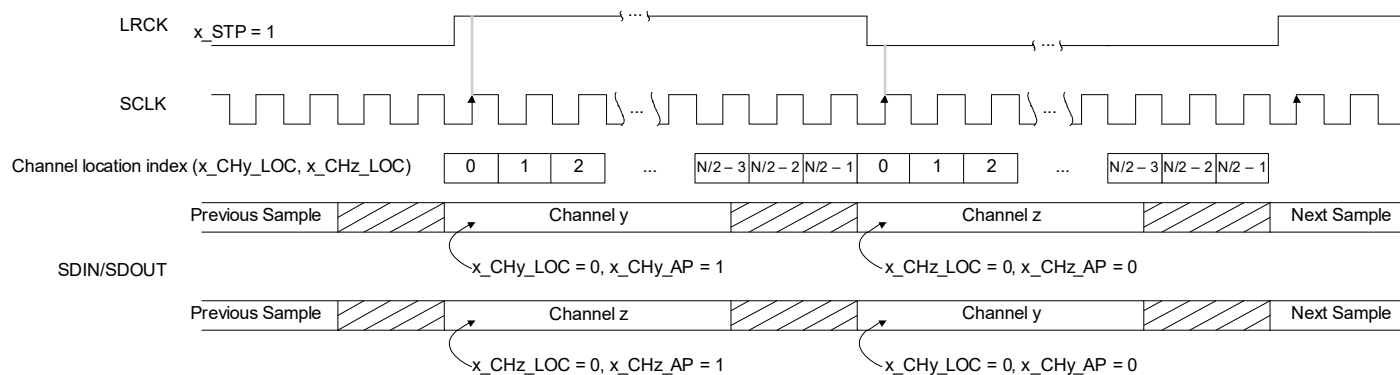

Figure 4-38. Example 50/50 Mode (ASP_STP = 1)
- If **ASP_STP** = 1, the frame begins when LRCK/FSYNC transitions from low to high. See Fig. 4-38.